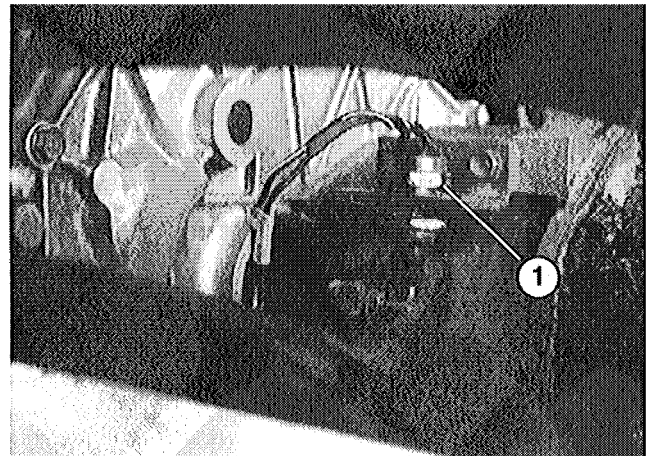

Figure 53
7. Recheck clutch safety switch adjustment (Fig. 53). Engine must not crank unless clutch pedal is $1.25" \pm .25"$ from floor. If an adjustment is required, loosen switch jam nuts and adjust up or down.